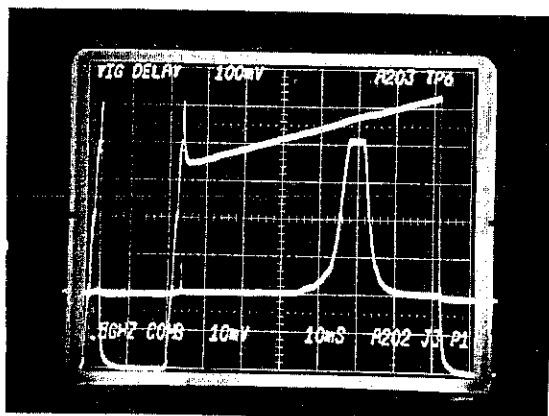

FIGURE 6-5
- (1) With connections as in paragraph 6.7e, set input frequency to 1 GHz at -15 dBm, and oscilloscope time base control to 10 ms/div., unexpanded.
- (2) Adjust YIG Delay Correction A202R16 so display appears approximately as shown in Figure 6-5.